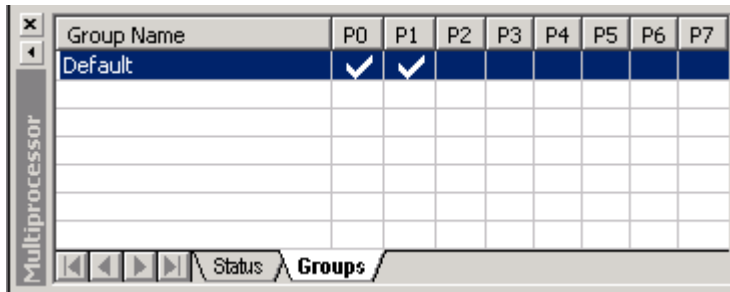

Figure 3-47. Multiprocessor Window: Groups Tab Page
1. In the Multiprocessor window, click the Groups tab to display the Groups tab page, shown in Figure 3-47.